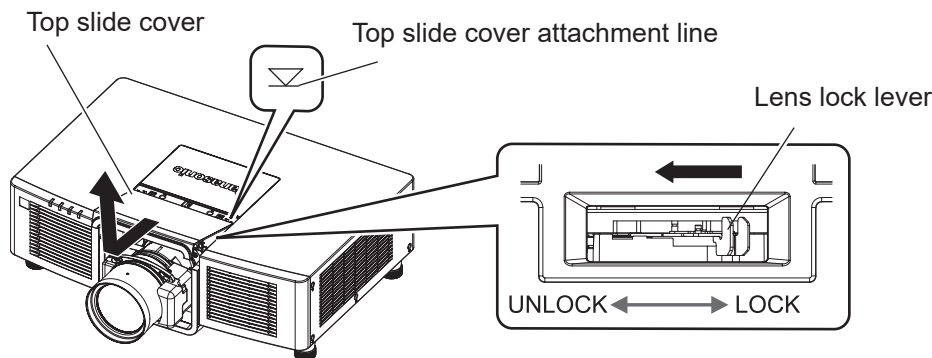
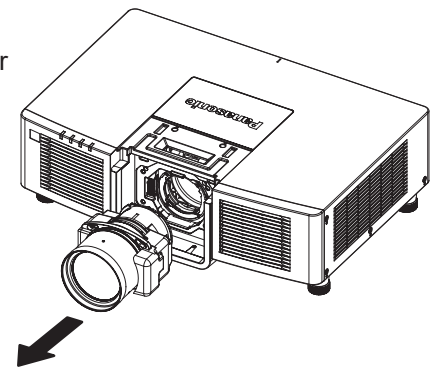

Fig. 3
Fig. 5
- 3) **Confirm that the lens lock lever is positioned at the Unlock side. (Fig. 3)**
- If the lens lock lever is at the Lock side (Fig. 5), pinch the lens lock lever and turn to the Unlock side. (Fig. 3)
- 5) **While holding the projection lens, turn the lock lever fully to the Lock side. (Fig. 5)**
2) Remove the top slide cover. (Fig. 3)
4) Remove the projection lens. (Fig. 5)
5) Attach the top slide cover. (Fig. 3)